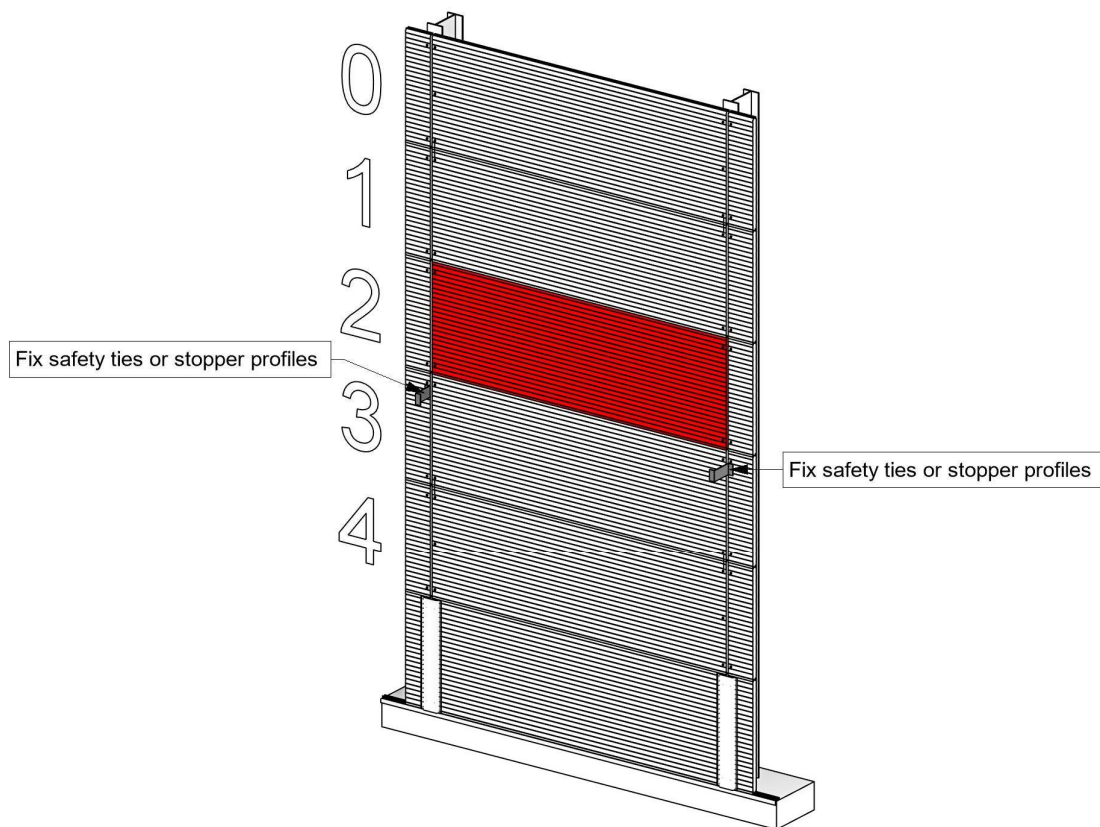

Fig. 13.6
STEP 5. Fix safety ties or stopper profiles (Figure 13.6) at both ends of panel 3 to make sure that when panel 2 is removed, the inner surface of panel 3 would be around 5 cm away from the wall surface. Length of the tie or profile = panel width + 15 cm. Remove fixation screws from the panel 3 and panel 1.